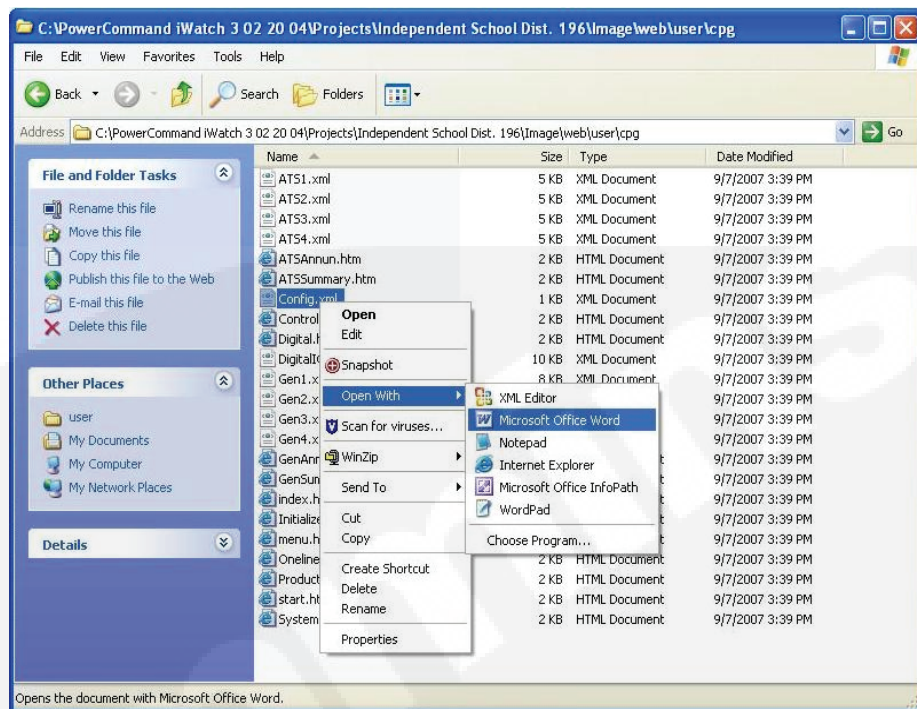

FIGURE 4-1. OPEN THE XML FILE
- c. Choose **Microsoft Office Word** (see Figure 4-1).